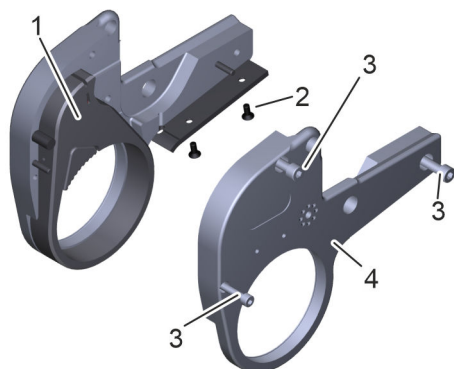

Fig. 26: Ratchet head
7. ➔ Undo the bolts (Fig. 26/3) and take off the cover.
⇒ You can now access the ratchet lever (Fig. 26/1).
- 10.** Make sure that the ratchet lever is firmly in place in the ratchet head housing. Put the cover back in place and fasten it with the bolts (Fig. 26).
- 11.** Mount the bracing plate and fasten it with the bolts (Fig. 26).